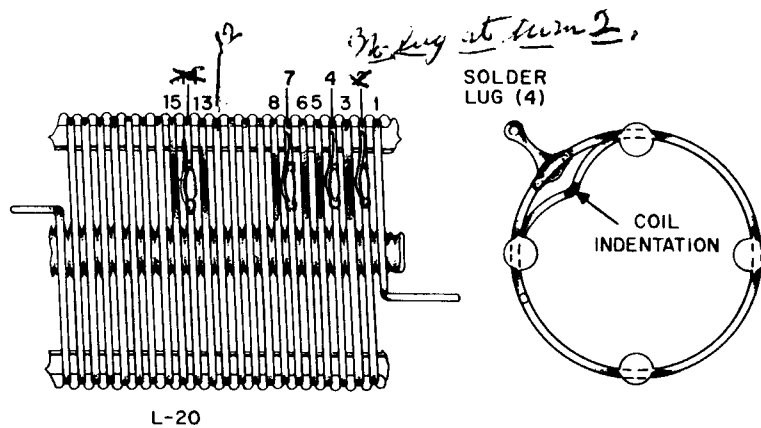

FIGURE 23. L-20 PREPARATION
- L-20, the large coil and ~~four~~ ^{EACH} #8 solder lugs. Bend the solder lugs around the coil windings and solder in place as shown in Figure 23.
- ~~Tubing covered heavy bare wire from the large grommet. Solder the free end to solder lug #2 of L-20.~~ ^{NO} _{SOLDER FREE END TO DOUBLE SOL LUGS as in FIG (21)}